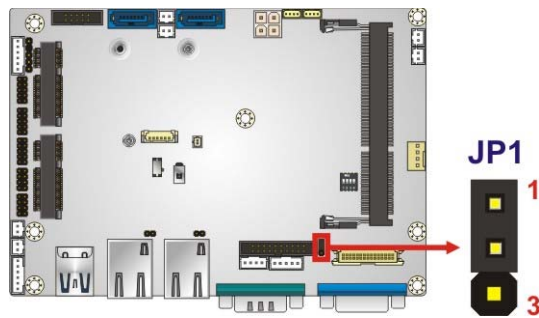

Figure 4-15: LVDS Voltage Selection Jumper Location
- Jumper Location:** See **Figure 4-15**